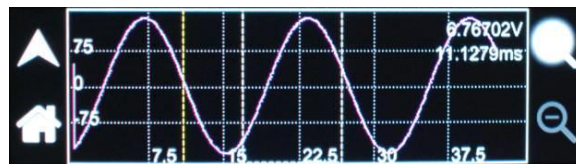

Figure 6-5. TRACE Screen, Zoom View Cursors
6. An expanded view of the waveform is available using the ZOOM VIEW mode. Select the Plus-Magnifier icon to activate the white, zoom cursors; refer to Figure 6-5. This could be done using the encoder or touch-screen.